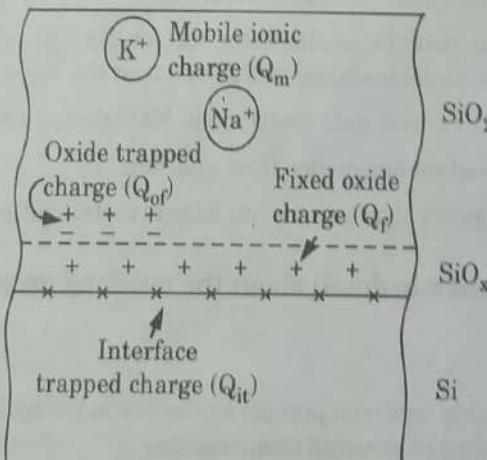

Fig. 2.20.1.
3. Fig. 2.20.1 shows general types of charges. These charges are described by $N = Q/q$,